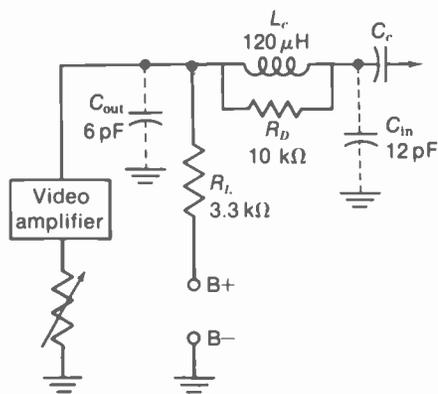

FIGURE 13-23 VIDEO AMPLIFIER WITH SERIES PEAKING COIL  $L_c$ .
**Series peaking.** See Fig. 13-23. In this circuit  $L_c$  is in series with the two main components of  $C_i$ . At one side of  $L_c$  is  $C_{out}$  for the video amplifier, and on the other side is  $C_{in}$  of the next stage. The series peaking circuit has more gain than shunt peaking because there is less shunt capacitance across  $R_L$ , while  $L_c$  provides a resonant rise of voltage across  $C_{in}$ . A series peaking coil usually has a shunt damping resistor, such as the  $10\text{-k}\Omega$   $R_D$ . Its function is to prevent oscillations or ringing in the coil with abrupt changes in signal. For the same frequency response, series peaking can use  $R_L$  50 percent higher with 50 percent more gain, compared with shunt peaking.